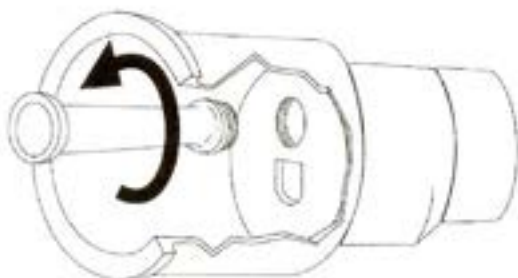

Figure 1
6. Remove venturi by unscrewing it (turn counter-clockwise; see Figure 1).